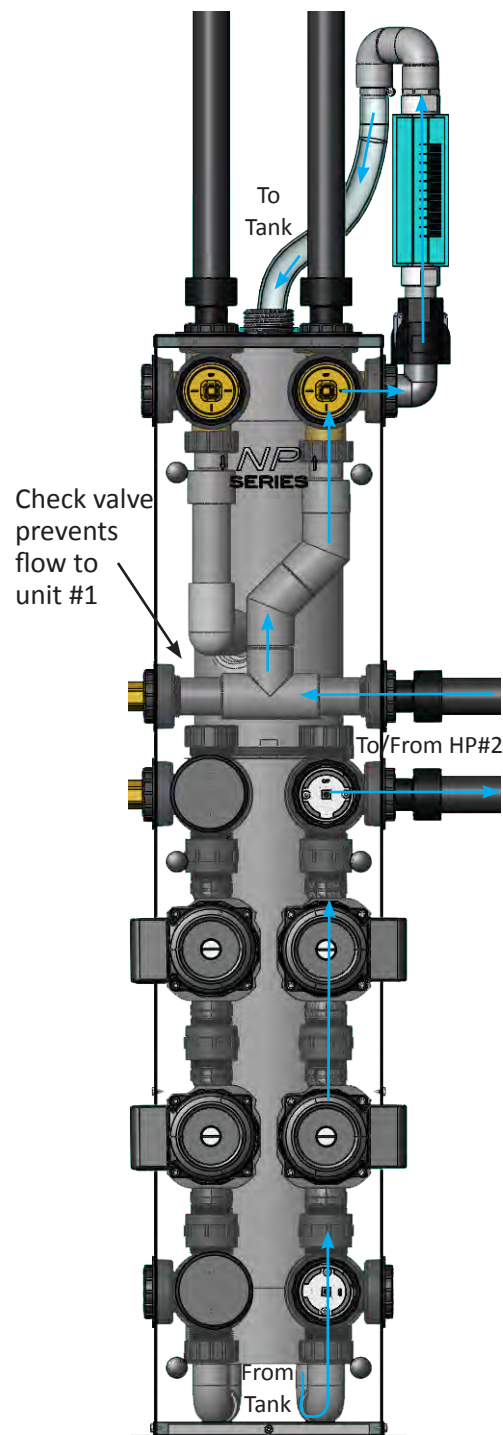

Figure 24: Flushing circuit after changing pump (blue arrows show fluid path)
10. Replace plug seal and cap. Rotate the bottom and middle valves back to their operating positions (Figure 24).
13. Energize the pump(s) on the side just replaced (HP #1 or HP #2). Fluid from the tank will circulate through the heat pump and back into the tank via the hose installed in Step 2. (Figure 24)